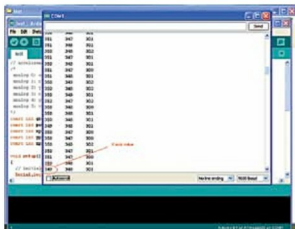

Fig. 6: Screenshot of values of X, Y and Z axes
- (iv) You will see the screen shown in Fig. 6 on which the values of X, Y, and Z axes will vary corresponding to the position of your accelerometer.